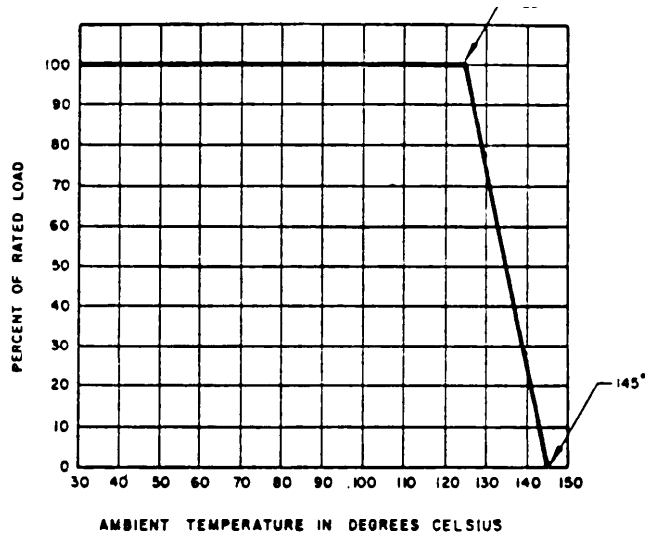

FIGURE 303-1. Derating curve for high ambient temperature.
2.1.2 Power rating. These resistors have a power rating based on operation at an ambient temperature of  $+125^{\circ}\text{C}$ . If these resistors are to be operated at an ambient temperature greater than  $+125^{\circ}\text{C}$ , the resistor should be derated in accordance with figure 303-1.